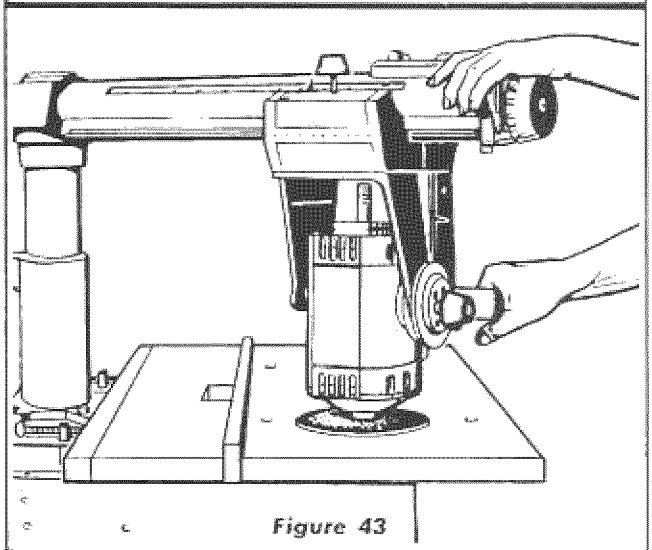

Figure 43
2. When sanding the table top or routing with the work stationary, the arm lock pin can be prevented from automatically indexing at 0° and 45° by loosening the arm latch handle to provide free movement of arm. (See figure 43.)
3. There is a possibility that during or after shipment, the wood front table, spacer board, or rear table might become slightly warped. Lay a straight edge across the surface of the table and check for gaps or high spots on the table. Any portions of the table which are not flat should be planed and sanded until flat. Sanding can be done by using one of the two key chucks referred to under "Routing" and a Craftsman moulded rubber 6-inch sanding disc. (Refer to figure 43.)